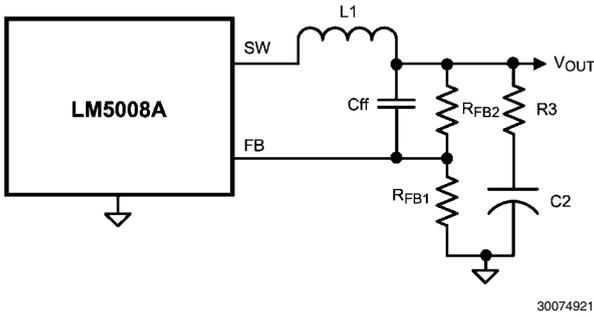

FIGURE 7. Reduced Ripple Configuration
a) Reduced ripple configuration: In *Figure 7*, C_{ff} is added across R_{FB2} to AC-couple the ripple at V_{OUT} directly to the FB pin. This allows the ripple at V_{OUT} to be reduced to a minimum of 25 mVp-p by reducing R_3 , since the ripple at V_{OUT} is not attenuated by the feedback resistors. The minimum value for C_{ff} is determined from: